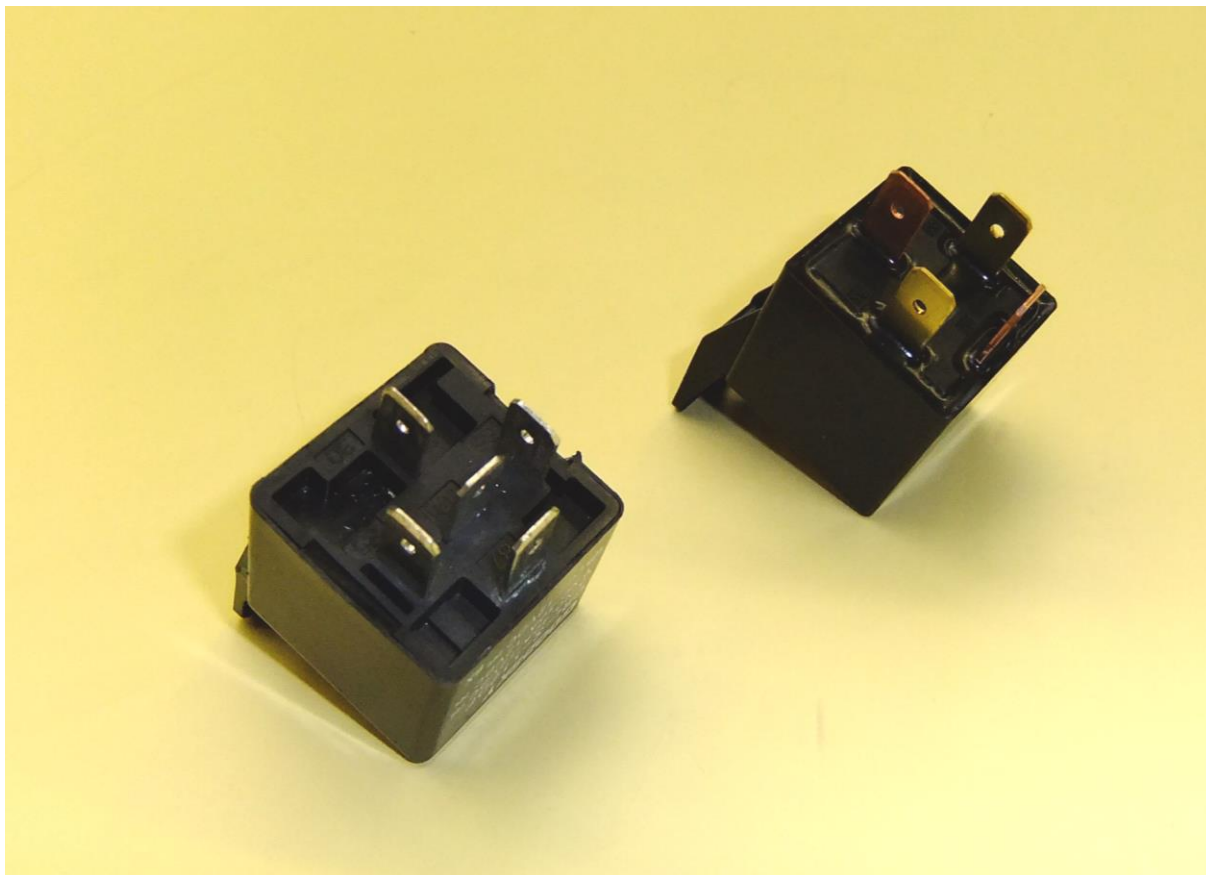

Fig. 1 – Relay with 5 contact pins (left hand/relay to be replaced) and with 4 contact pins (right hand/improved relay)
- 1 Count amount of contact pins of the fuel pump relay (Fig. 1)